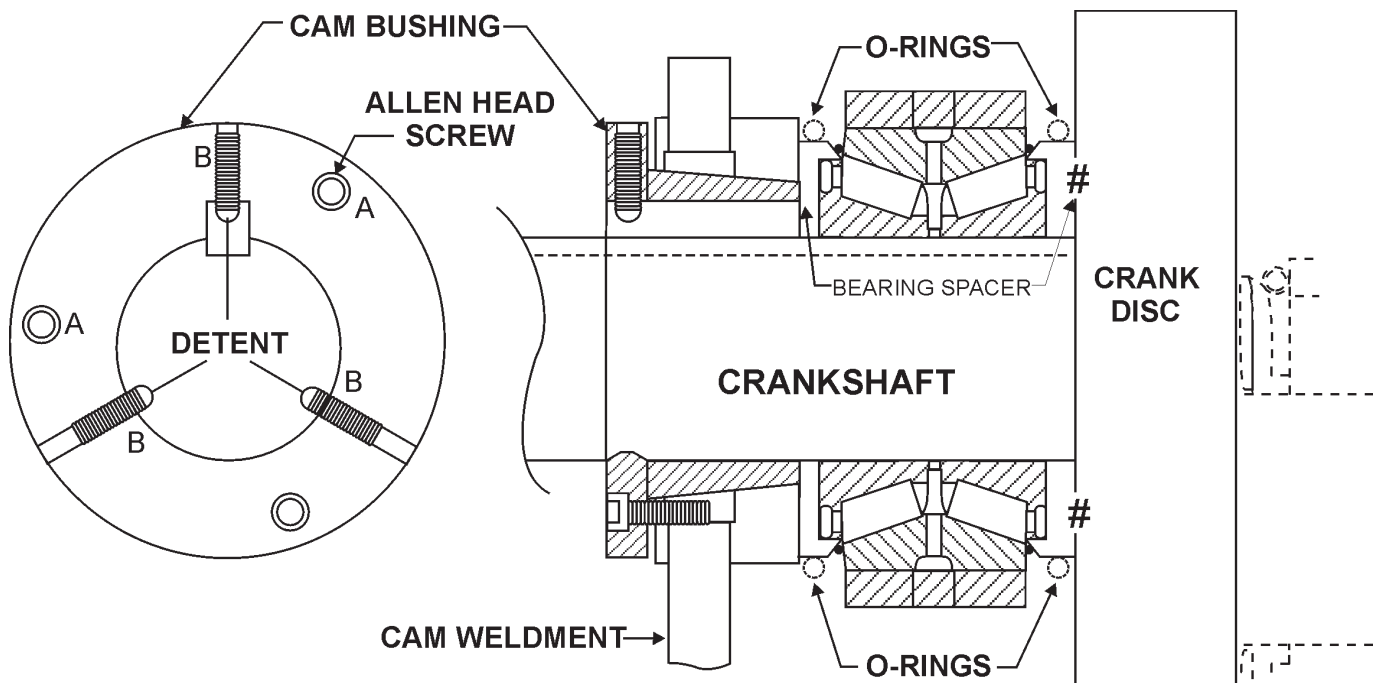

Figure 24. Bearing/Cam Bushing Installation
1. Install the bearing components on the crankshaft making full contact with the back side of the crank disc as indicated the symbol #. See Figure 24 below.